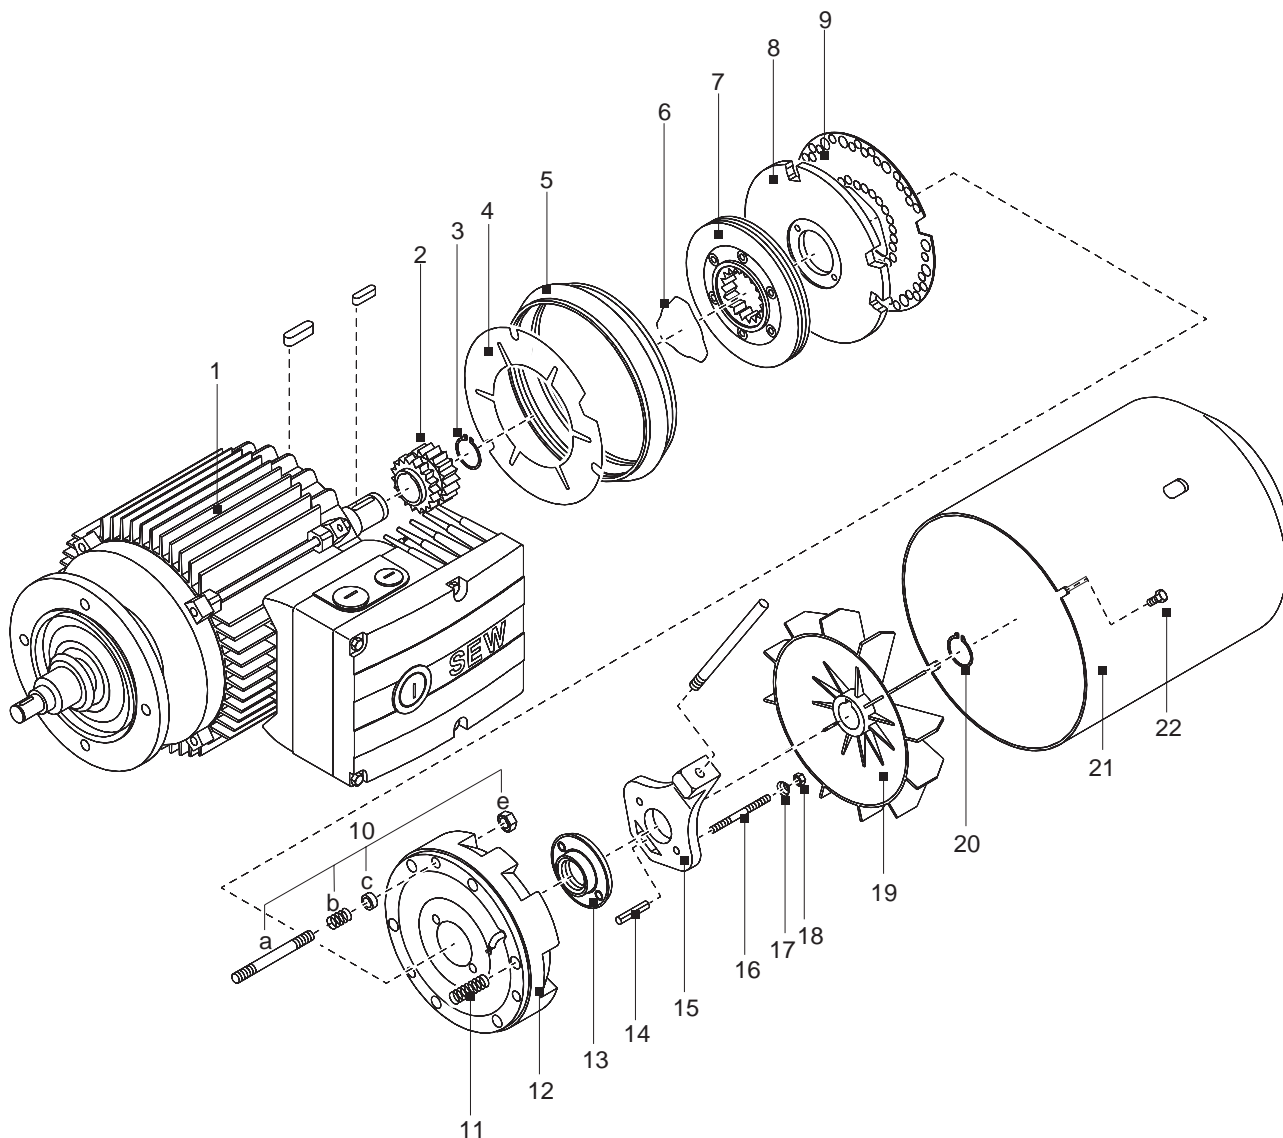
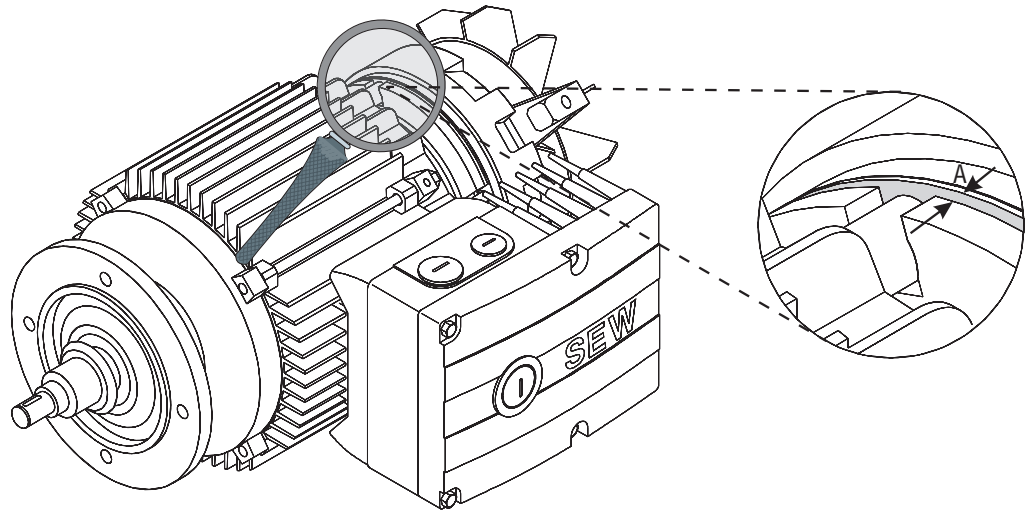

Fig. 4: Type BMG 05 - BMG 4
Fig. 5: Measuring the working air gap
(Fig.4 + Fig. 5)
5. Measure working air gap A (see Fig. 5)
- with feeler gauge in three places, 120 degrees apart, between pressure plate and damping plate (9).
(Fig. 4 + Fig. 5)